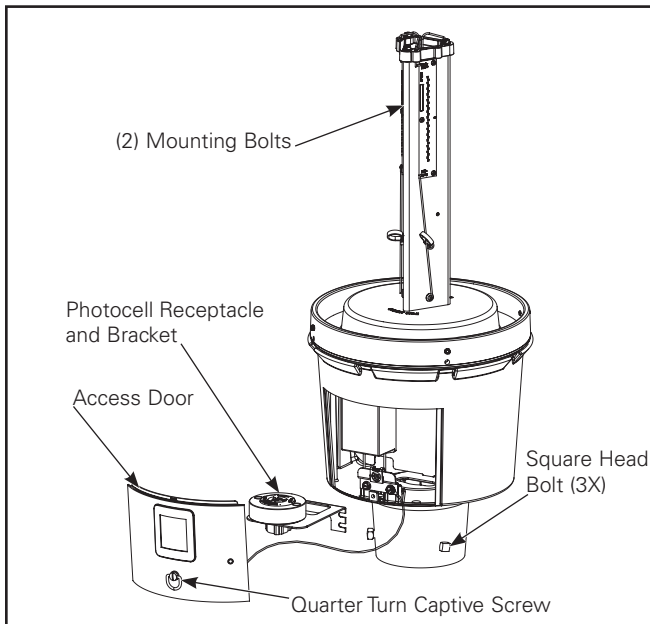

Figure 1.
1. Remove access door by turning the captive quarter turn screw counter clockwise to disengage lock. (Figure 1.)